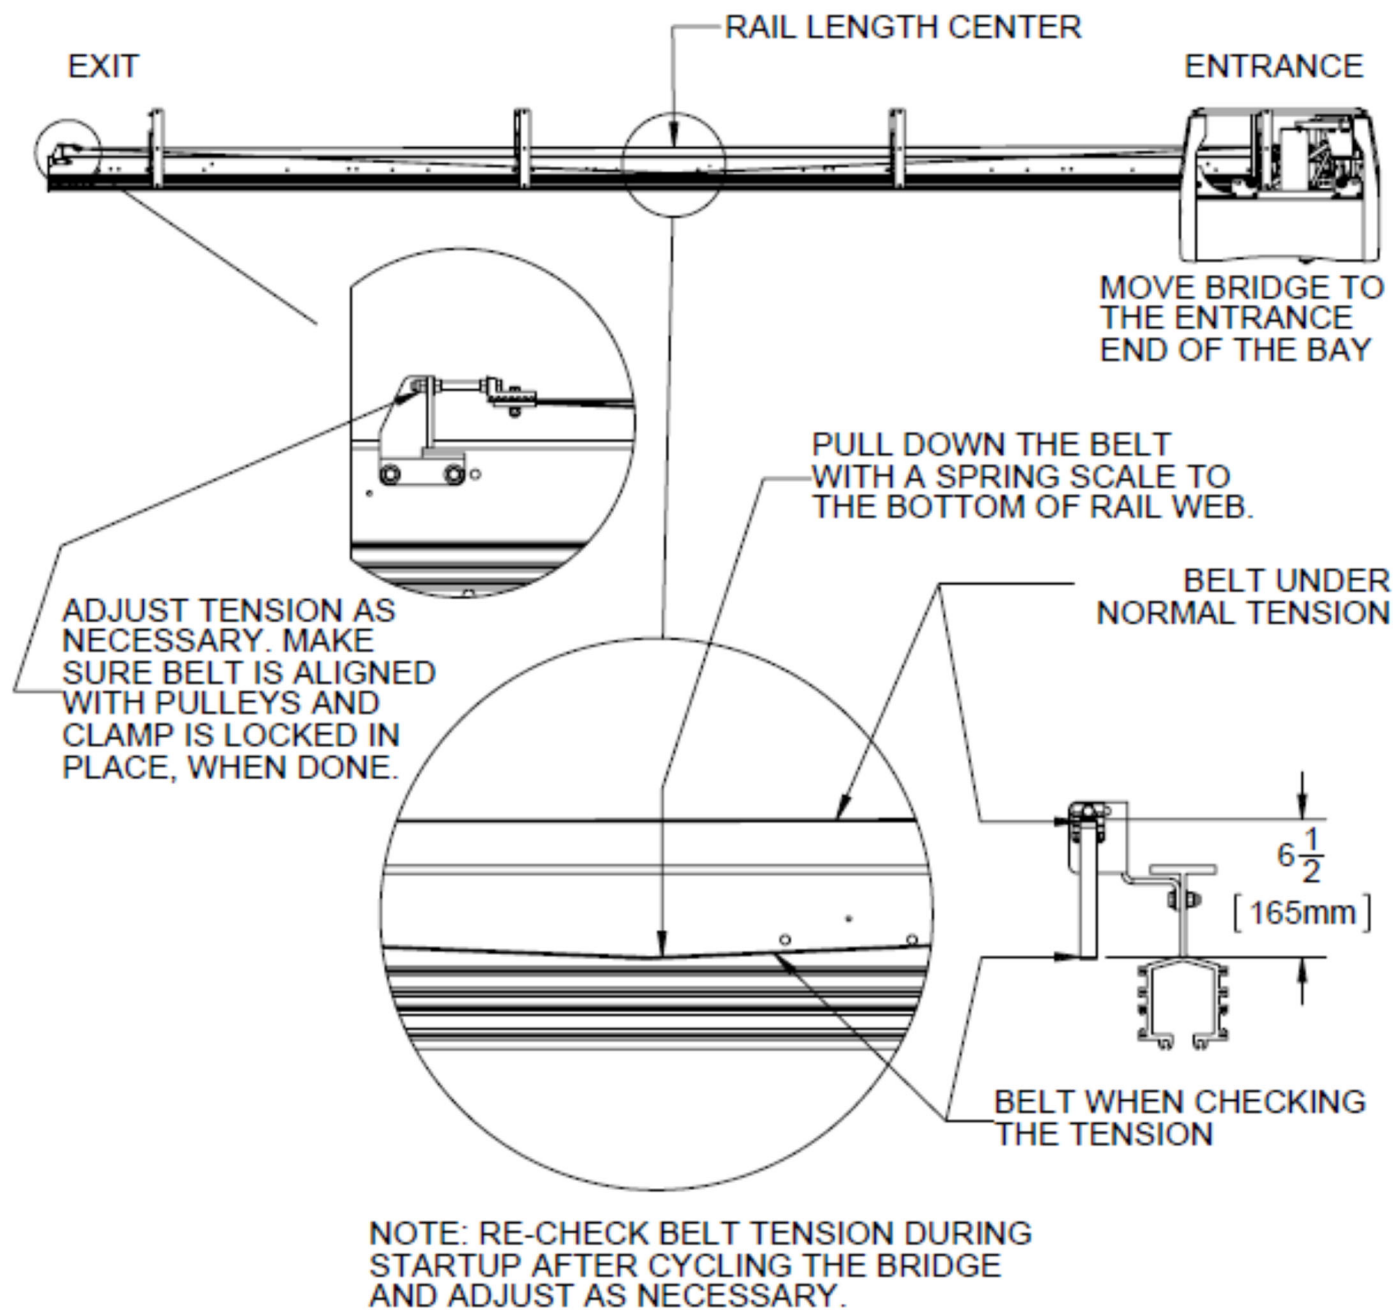

Figure 89 - Bridge Belt Tensioning
- Use a spring scale hooked to the belt at the center of the main rail to pull downward 6 - 1/2" in (165mm). For reference, the belt is pulled 6 - 1/2" in (165mm) downward when the belt is in line with the bottom of the vertical web of the aluminum rail (see note and diagram in Figure 89).